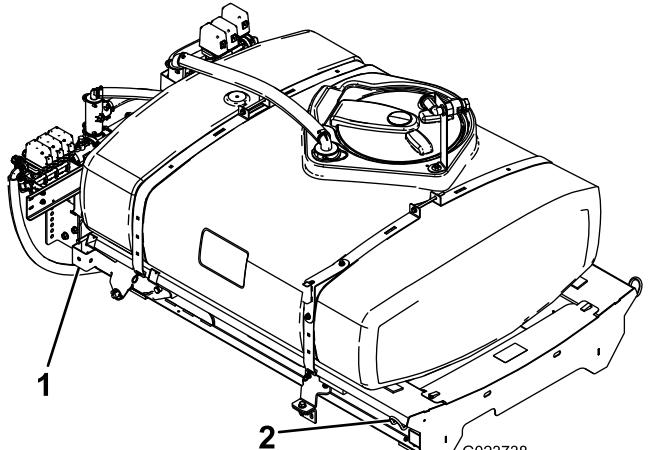

Figure 10
1. Using a lift, raise the tank skid assembly (Figure 10) and position it over the vehicle frame with the pump and valve assemblies facing rearward.